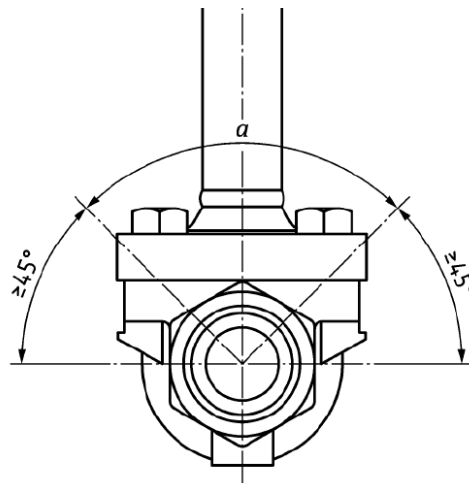

Figure 1 - Picture Extract from DIN EN ISO 28921-1:2017-05
- 4.2.3.7 Valves intended for fluid applications other than cold box applications shall be operable with the extended bonnet at an angle of 45° or more above horizontal (Figure 1).